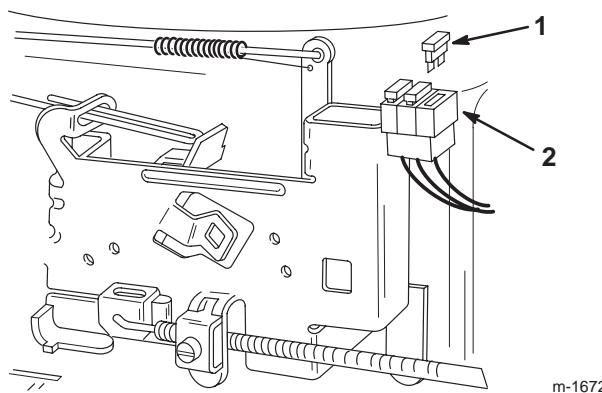

Figure 29
1. Pull up on the fuse (Fig. 29) to remove it from the socket.